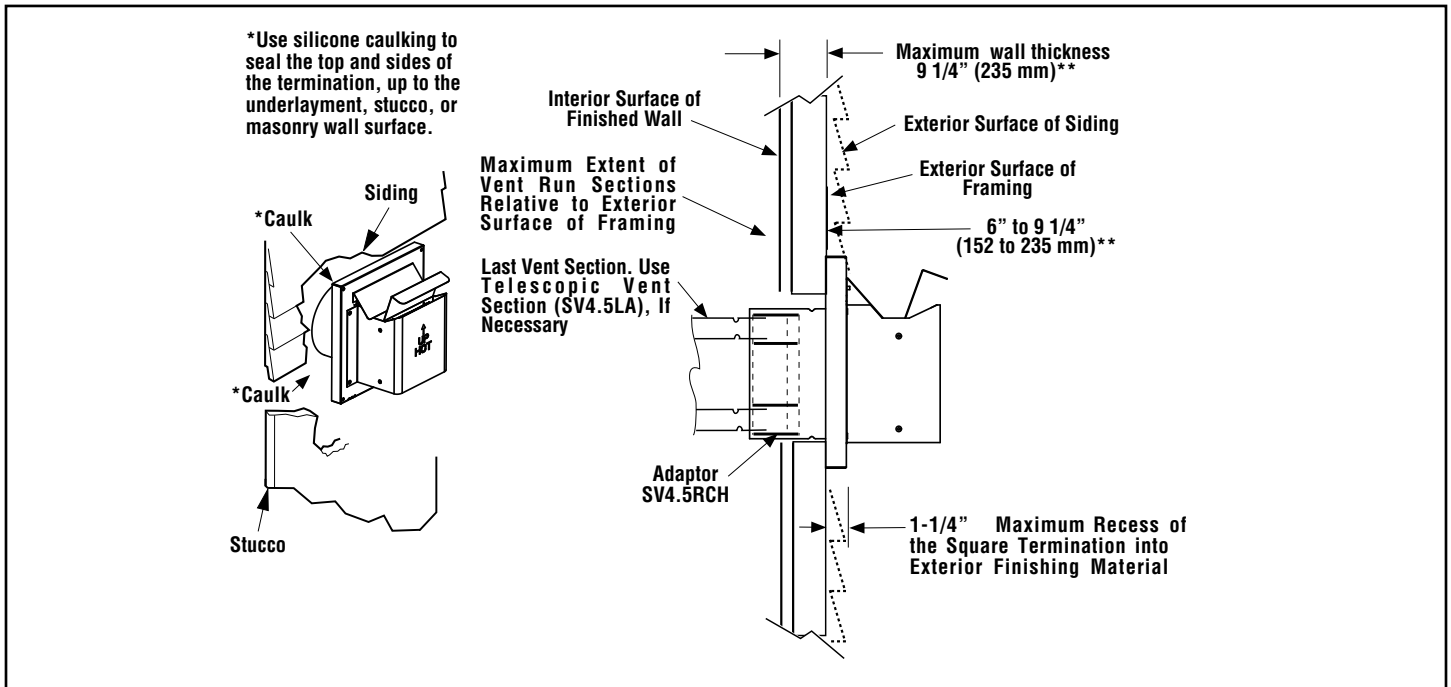

Figure 10 - Venting Connection and Exterior Wall Recessing of the Horizontal Compact Termination (SV4.5HTKCT)
1. **Install the termination (SV4.5HTKCT)**—From outside the exterior wall, slide the collars of the termination onto the adaptor (the outer over the outer and the inner inside the inner) until the termination seats against the exterior wall surface to which it will be attached. Orient the housing of the termination with the arrow pointed upwards. Secure the termination to the exterior wall. The horizontal termination must not be recessed into the exterior wall or siding by more than the 1-1/4" (32 mm) (**Figure 10, Page 16**).